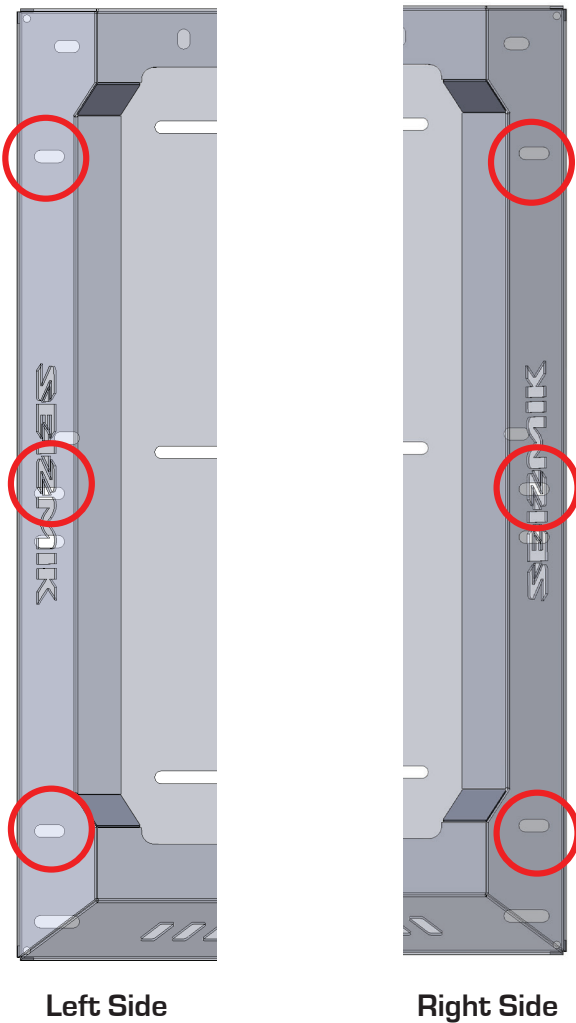
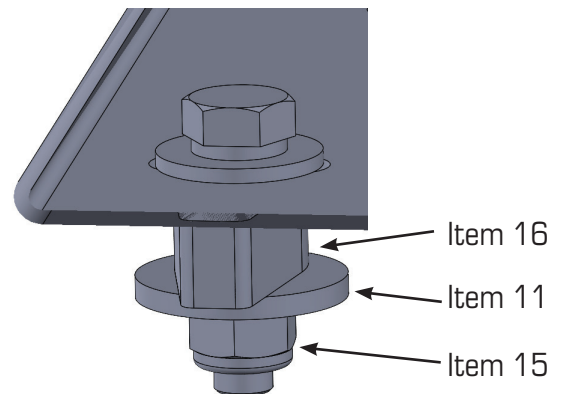

Fig. 2
Fig. 3
2. From the top of the bed rack, insert the bolt assemblies through the six (6) mounting holes as shown in Fig. 2. From underneath the basket, fasten each of the bolt assemblies using one (1) of Item 16, Item 11, and Item 15 as shown in Fig. 3. **Do not** fully tighten the nuts to the bolt at this time.